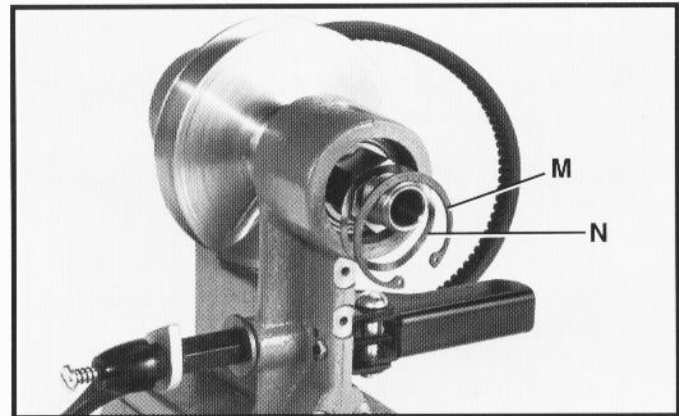

Fig. 98
9. Remove snap ring (M) Fig. 98, and spring washer (N) from inboard end of spindle.